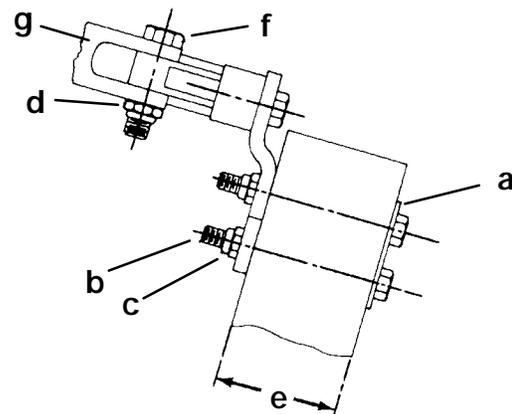

Figure 2
7. Use a marine-type sealer on three 5/16 in. x 3-1/4in. (7.9mm x 82.6mm) bolts. Secure attaching kit to transom, using transom backing plate, 3 bolts (with sealer) and 3 locknuts, installed as shown in Figure 2. Torque lock nuts to 10 lb. ft. (13.5 N·m).